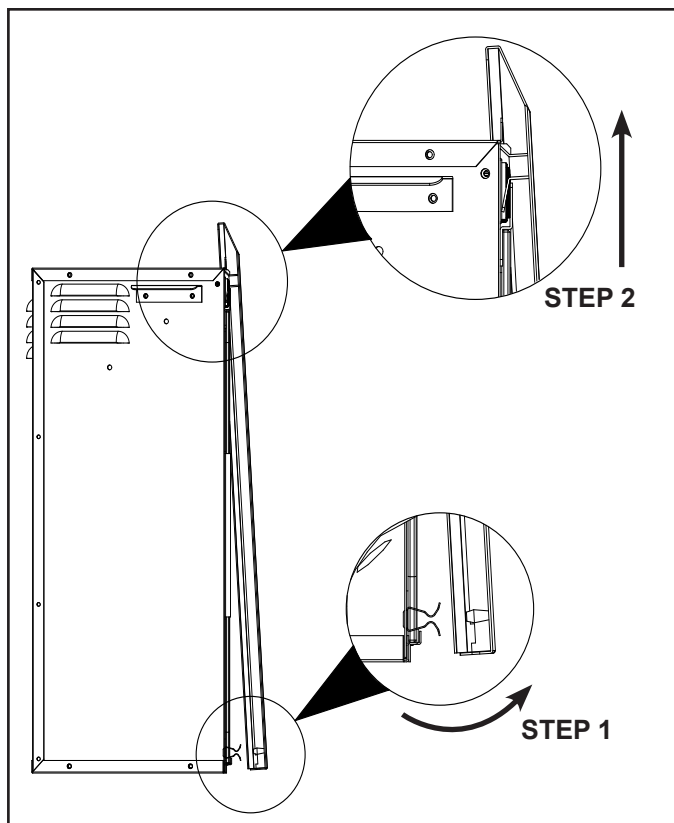

Figure 4.1
1. The Decorative Front is shipped attached to the appliance. To remove the front from the appliance. Pull the bottom of the front away from the appliance, disengaging it from the spring clips. See Figure 4.1